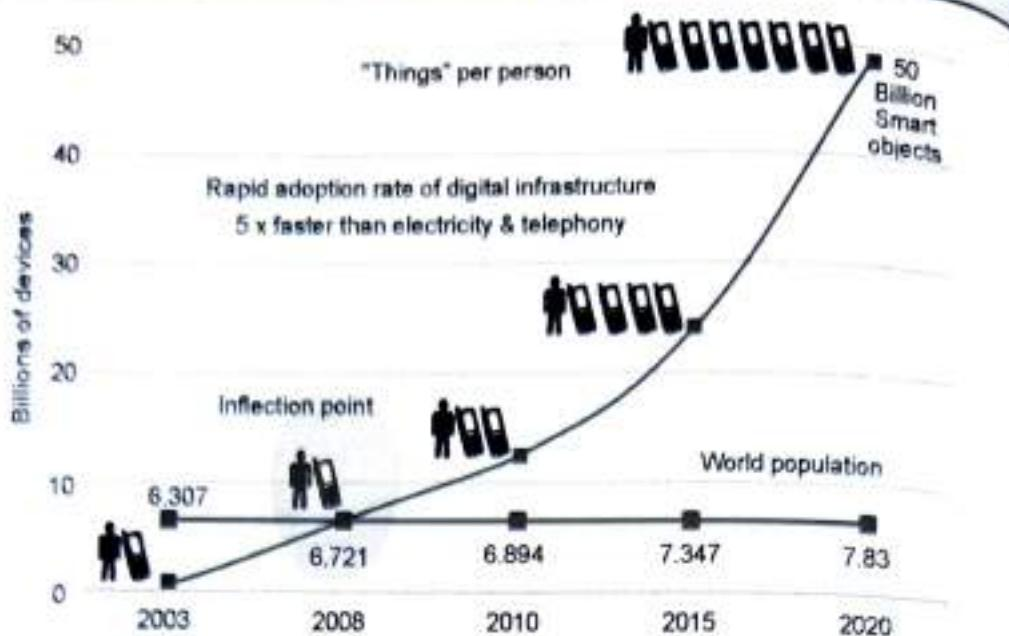

Fig. 2.10.1 : Growth of devices connected to Internet
- Fig. 2.10.1 shows how the “things” connected to the Internet are continuing to grow exponentially with a prediction by Cisco that by 2020 there will be more than 50 billion devices connected to some form of an IP network.